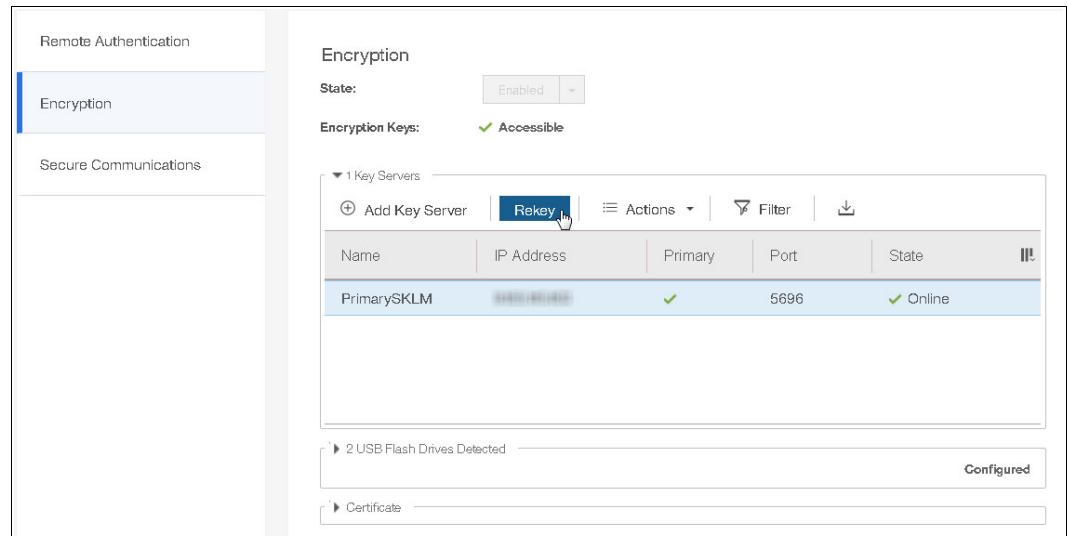

Figure 7-62 Select Rekey for the primary key server
1. In the management GUI, select **Settings** → **Security** → **Encryption**. Expand **Key Servers** to display all configured key servers on the FlashSystem 900 and select **Rekey** (see Figure 7-62).